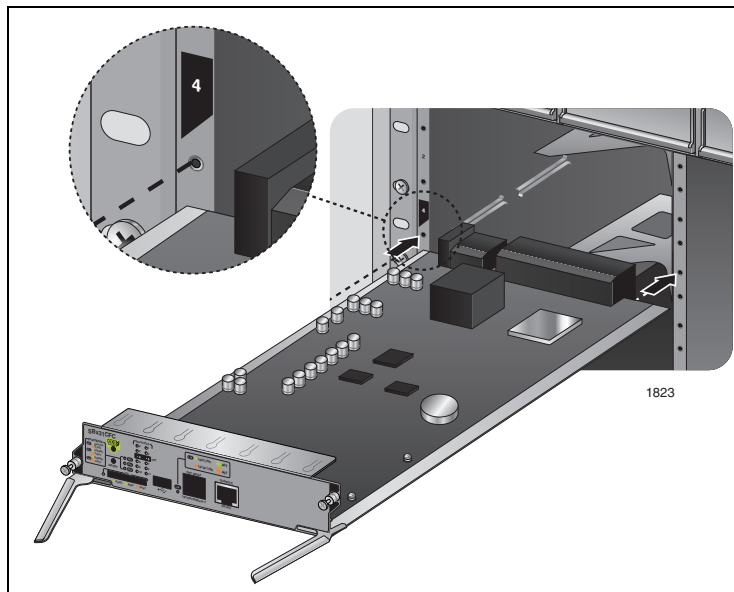

Figure 42. Aligning the AT-SBx31CFC Card in the Chassis Slot
6. Align the AT-SBx31CFC Management Fabric Card with the internal chassis card guides in the selected slot of the AT-SBx3112 Chassis. Figure 42 shows the AT-SBx31CFC Card being aligned in slot 4.